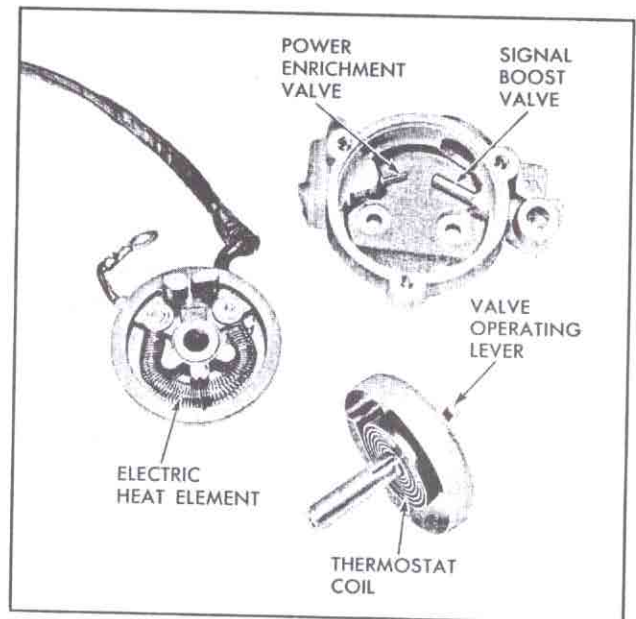

Fig. 111—Cold Enrichment Housing Components
The cold enrichment housing, mounted on top of the air meter, contains four parts (fig. 111). These are (1) signal boost valve, (2) power enrichment valve, (3) thermostatic coil, and (4) an electric heat element. The thermostatic coil is mounted on a shaft, the lower end of which has an arm that operates the boost valve and the enrichment valve. Mounted on the upper end of the shaft are a trip lever and counterweight which operate the fast idle cam to control idle speed during engine warm-up.